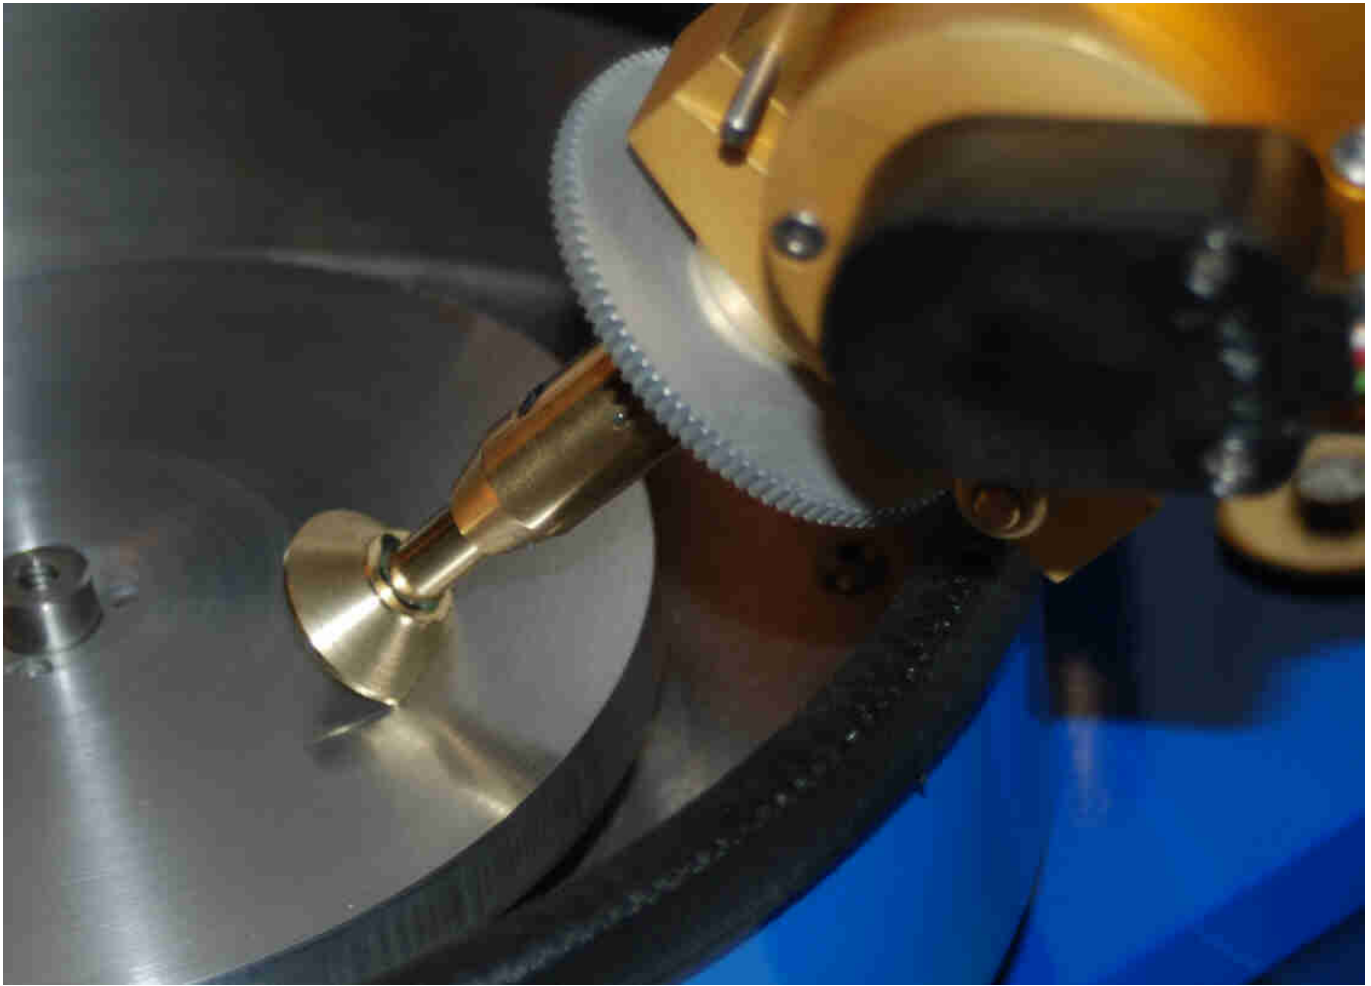

Fig 13
(27) SETTING INDEX WHEEL AND DOP ARM IN RELATION TO MASTER PLATE. (Fig. 13)
(28) CHECKING SQUARENESS OF PIVOT AXIS AND DOP ARM AXIS. (Fig 13) This is done with the “D” Dop. Locate and lock the Dop in the Dop arm. Lower the head down to approximately 90° and adjust the Index Cheater so that the straight edge of the dop sits flat on the Master Plate. Now move the Head up to an Angle reading of around 45° . The straight edge of the Dop should sit flat on the Plate. To check if the Dop is sitting flat, depress the Index Pawl while putting a little finger pressure on the top of the Dop. If the Index Wheel kicks then the Dop is not sitting flat.
(29) INDEXING.